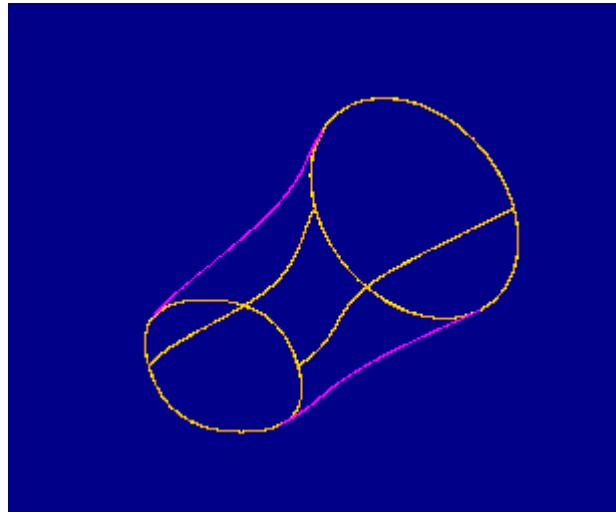

Figure 5
6. With one portion of the surface created, the second half can be defined. The same procedure should be used as in Step 4. The other half of the circular curve and the other composite elliptical curve will now be referenced. This surface will also have tangency defined, but select the surface created in Step 4 (boundary blend) as the reference. (Figure 5)